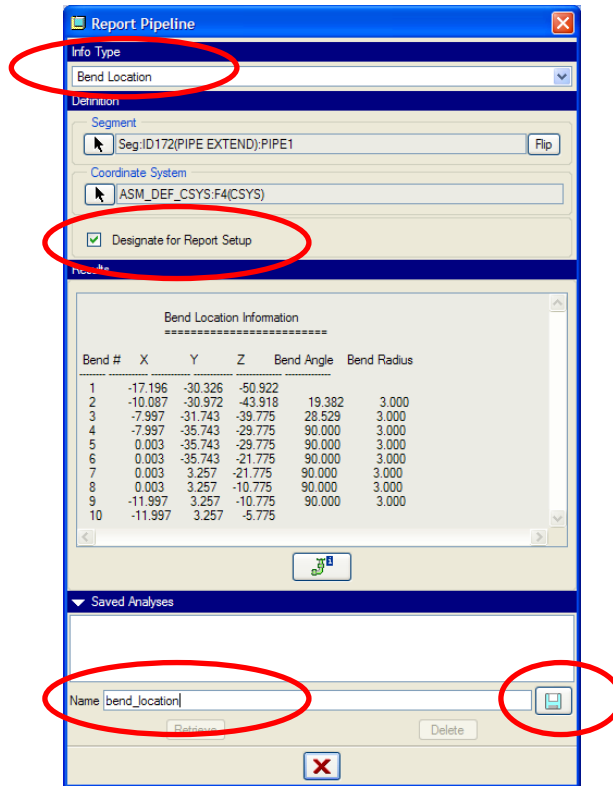

Figure 19
- 4.8.2 In the Menu Manager, click **Info**. In the “Info Type” section, select “**Bend Location**”. (See Figure 19)